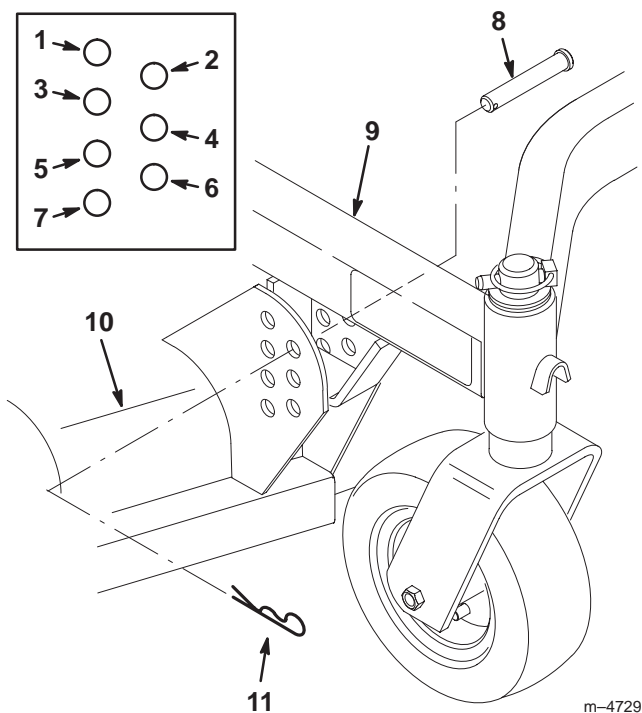

Figure 4
2. Mount the cutting deck to the carrier frame with 4 clevis pins and hairpin cotters (Fig. 4).